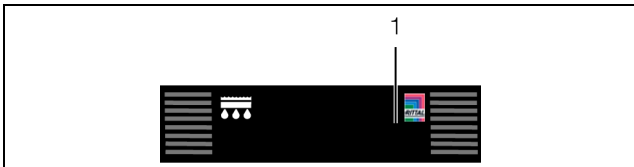
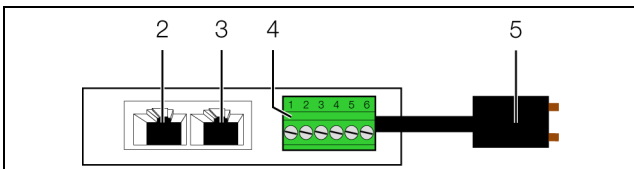

Fig. 13: Front of the leak sensor
Fig. 14: Rear of the leak sensor
A multi-LED for the status display is integrated into the front of the leak sensor (fig. 13, item 1). Further LEDs are located at the rear on the CAN bus connection (fig. 14, items 2 and 3).